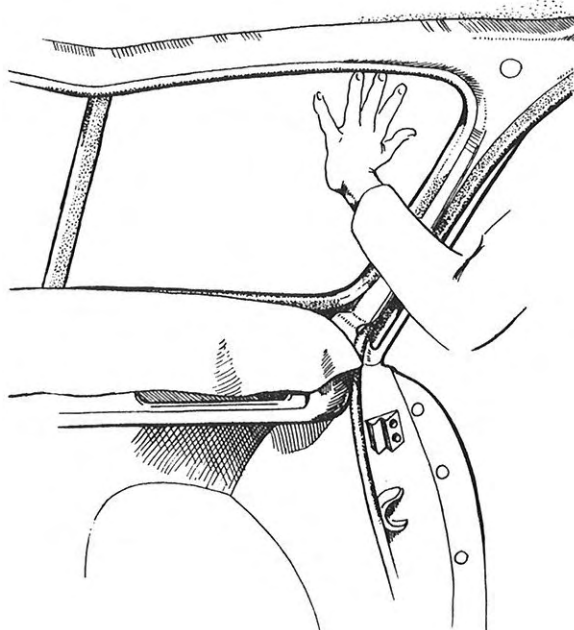

Fig. 3. Removal of windshield
3. Press put the windshield carefully with the palm of the hand, working along the edges, see Fig. 3.